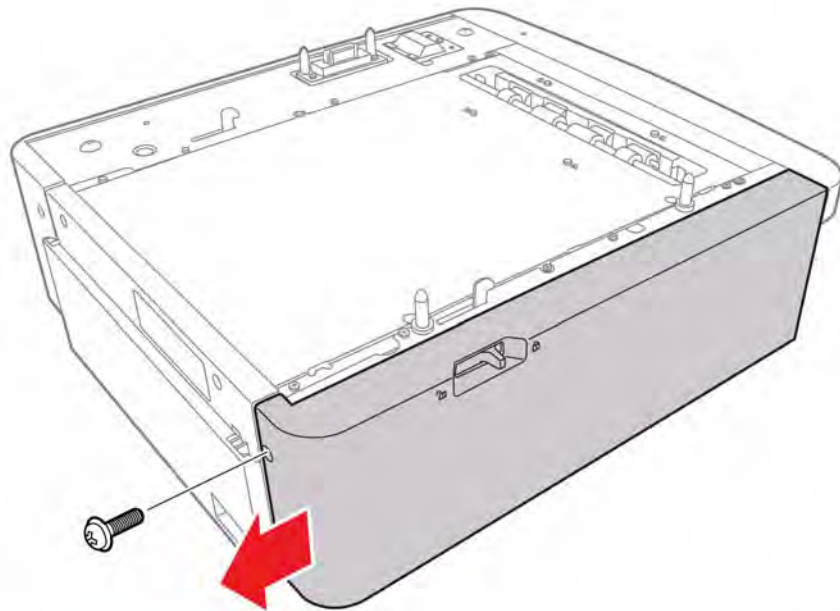

Figure 1 Remove the Left Cover
2. Remove 1 screw (plastic) and slide the cover to the rear to release 6 hooks that secure the cover, Figure 1.